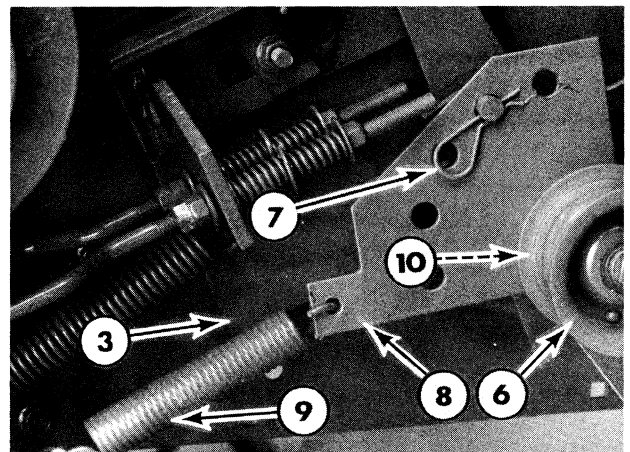

Figure 12-58
1. If the mounting plate, 3, Figure 12-58, was removed, use an M10 x 50 cap screw, washer and lock washer to attach the rear of the plate to the side sheet. If there were washers between the mounting plate and frame they should be reinstalled also. Do not tighten the cap screw until the clearances in step 3 are adjusted.
5. Attach the spring, 9, Figure 12-58, to the bracket.